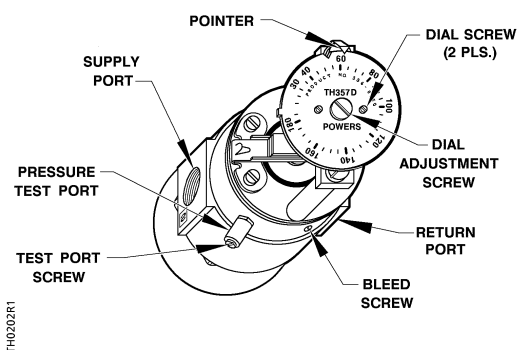

Figure 8. LIMITEM® Cover Removed.
2. With a screwdriver, turn dial adjustment screw to change to the desired setpoint. See Figure 8.
3. If a permanent return air gauge is not installed, use the pressure test port. See Figure 8 for its location.
1. Loosen the dial screws. See Figure 8.